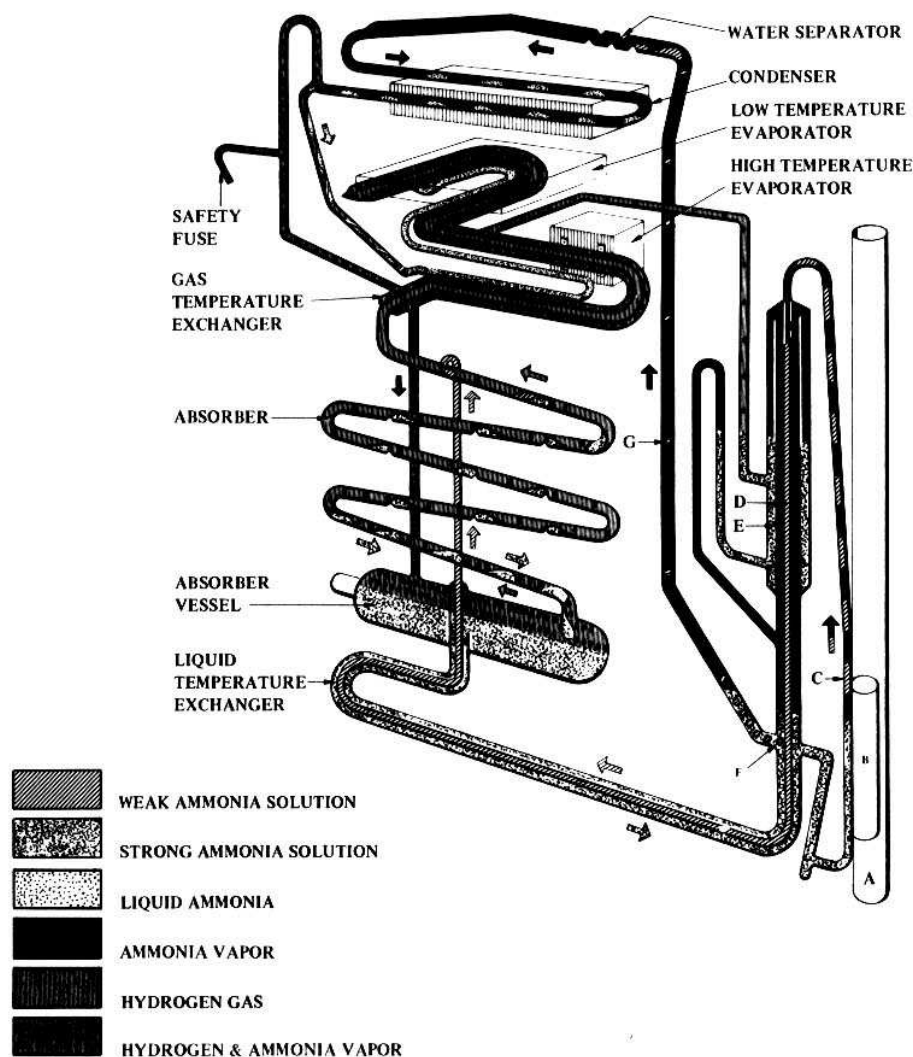

Fig. 5
The unit, (see fig. 5) consists of four main parts — the boiler, condenser, evaporator and absorber. Further, this unit is provided with an automatic defrosting device (see fig. 6).
The unit (in fig. 5) can be run on either electricity or L.P.G. When the unit operates on L.P.G. the heat is supplied by a burner which is fitted underneath the central tube (A) and when the unit operates on electricity the heat is supplied by a heating element inserted in the pocket (B).
The absorption unit shown in Fig. 5 incorporates a unique, fully automatic defrosting device for the general food storage compartment, which eliminates the necessity for manual defrosting at frequent intervals normally associated with most conventional refrigerators. Furthermore, the time interval of each defrosting cycle, and the frequency, have been so arranged that during defrosting there is no noticeable effect upon the temperature of the foods stored in the refrigerator, and frozen food storage conditions can be maintained at all times in the frozen storage compartment.